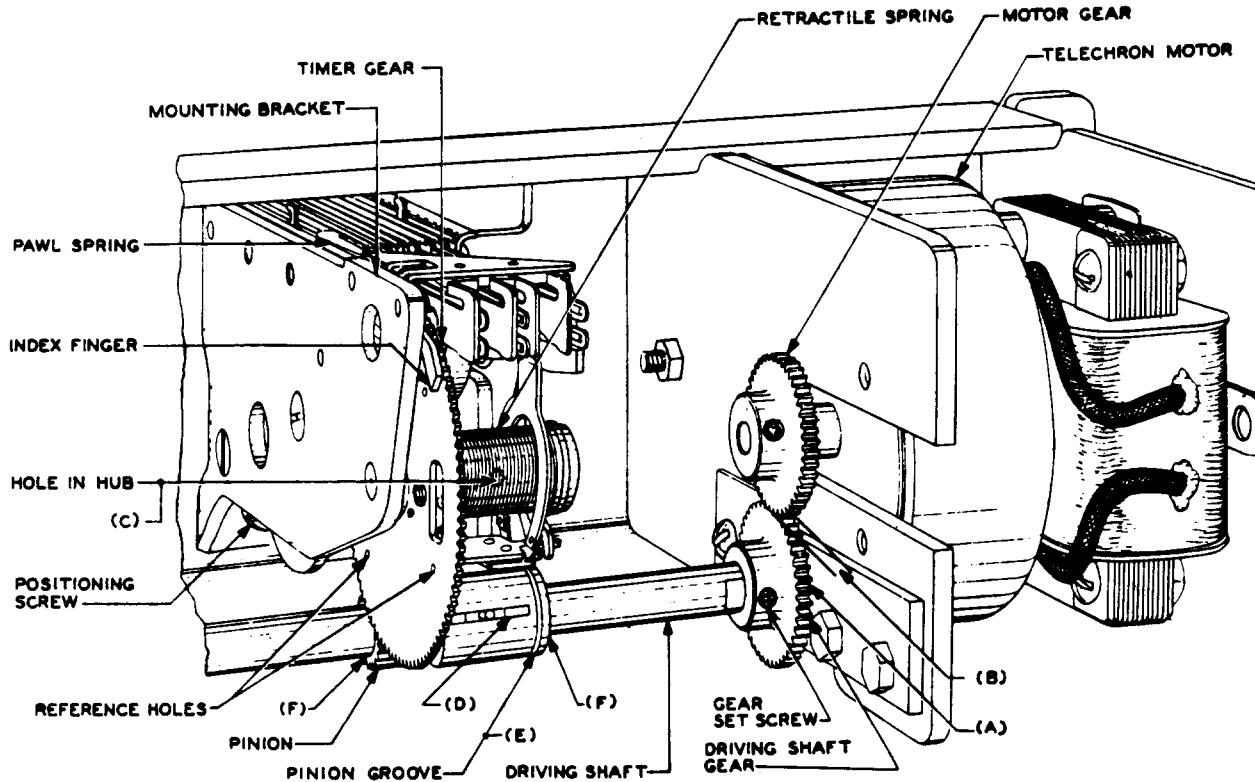

Fig. 2 - Timer and Associated Drive Assembly
- (1) Two discharges distributed evenly around the circumference of the driving shaft at each support bearing (one discharge on each side of the support) and two discharges at the left and right thrust bearings.
- (2) Fig. 2(D) - One discharge to the slot in the pinion.
- (3) Fig. 2(E) - One discharge to the groove in the pinion.
- (4) Fig. 2(F) - Two discharges distributed evenly around the circumference of the driving shaft at each end of the pinion.
- (5) Fig. 2(C) - Three discharges to the hole in the hub of the gear shaft.
2.04 End Play of Driving Shaft: Fig. 2(A) - With the driving shaft motor stopped the end play of the shaft shall be
(b) Fig. 2(B) - The teeth of the motor and driving shaft gears shall engage for their full width, at one point in the position of the gears, when they are moved back and forth in opposite directions to the extreme limits of motor and driving shaft end play. In no case, however, shall the engagement be less than 1/2 the width of the gear.